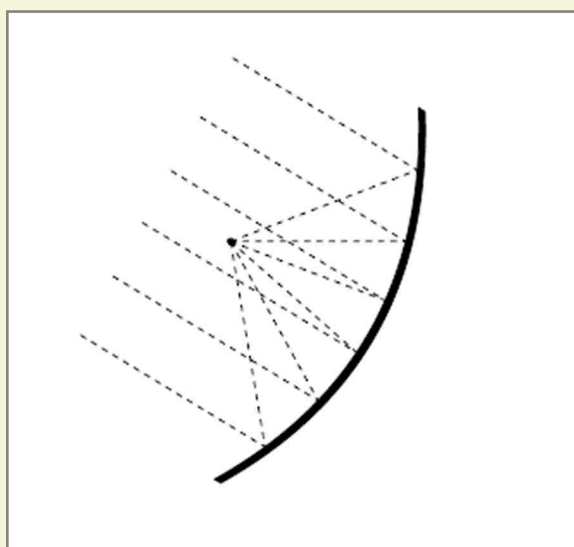

Fig.1. Parabolic Dish Antenna Aimed at Satellite
**1.** A 30 inch conventional dish at 10 GHz, with measured gain of 36.4 dBi and efficiency of 64%. The estimated spillover efficiency is 87% for a 10 dB illumination taper. With the dish pointing at a high elevation as shown in Figure 1, perhaps half of the spillover is illuminating earth at 290 K, which adds an estimated 19 K to the 6 K of sky noise, for a total of 25 K. In a 500 Hz bandwidth, the noise output is -157.6 dBm.